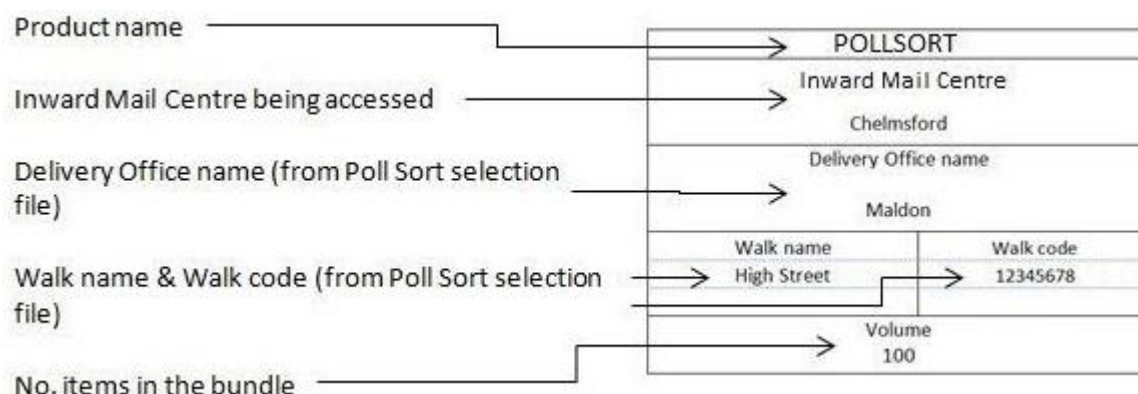

Figure 34: Bundle label
- Tray Labels and York cards must clearly be identified as Poll Sort. Examples of labels are shown below in **Figures 34 to 37**.